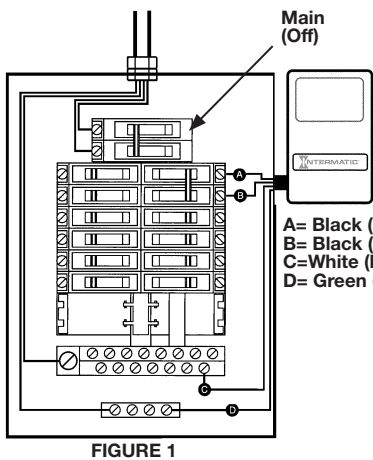

FIGURE 1
2. Connect the green wire from the SPD to the ground bus bar within the panel as shown in figure 1.
3. Connect the white wire from the SPD to the Neutral bus bar within the panel as shown in figure 1.
4. Connect the two black wires to a circuit breaker as shown in Figure 1. For best performance from SPD the maximum recommended circuit breaker size of 240 V 20 A, 1 or 2-pole should be used.